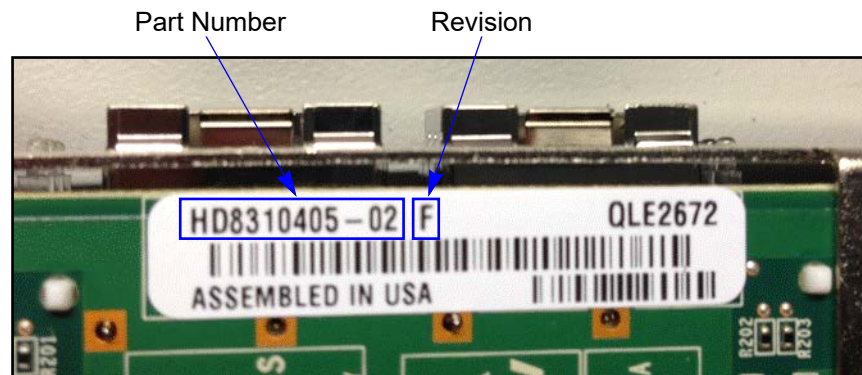

Figure 3-1. 2600 Series Adapter Part Number Location—Physical
- Locate the physical label on the adapter that has the part number (see Figure 3-1), and then check to see if it is listed in Table 3-1.
- In QConvergeConsole CLI **Adapter VPD Information** menu, select a 2600 Series port in the **Adapter Port**. Navigate to **Port Vital Product Data (VPD)** (see Figure 3-1), view the **Engineering Date Code** for the part number, and then check to see if it is listed in Table 3-1.
Some 2600 Series Adapters that support personality change require an *enablement kit* (available on the QLogic Web site) for the change to work. For the adapters listed in Table 3-1 on page 19, revisions A, B, C, D, E, F, and G require the enablement kit; revisions H and later do not. The adapter revision is printed on a label on the adapter (see Figure 3-1 on page 19).